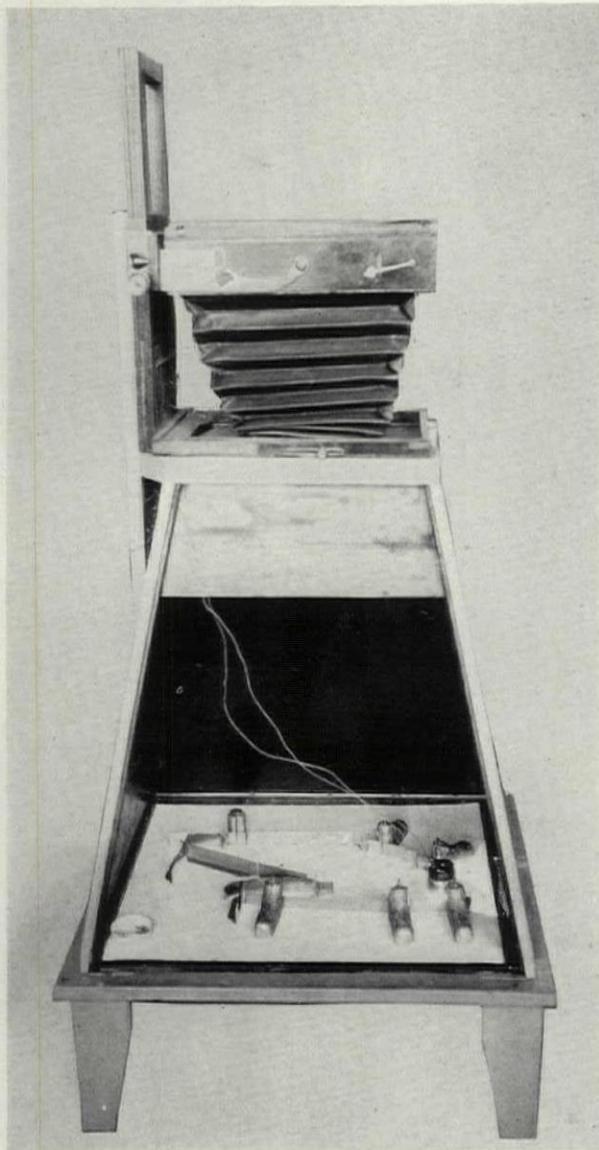

Fig. 1
The significant sections of a room to be studied are usually: (1) the floor plan, (2) longitudinal section, (3) cross sections. They are laid out in line on a stiff white paper (Fig. 1). The section to be studied first is placed on a flat surface, and a highly polished strip made of metal $\frac{1}{2}$ -inch wide is placed along the boundary lines of the section, the width (the $\frac{1}{2}$ -inch dimension) being perpendicular to the plane of the section. This strip is bent to conform to the outline of the section, and is held in place by weights similar to spline weights. The section is then placed in a darkened room and a small bulb situated at the source of sound is lighted. The reflections from the polished metallic strip are found to make the same pattern on the surface of the paper as would be obtained if one should carefully construct lines representing all the rays of light from the same point and from the reflecting surfaces. This method gives results more accurate than those secured by drafting, and in a fraction of the time required for that method.